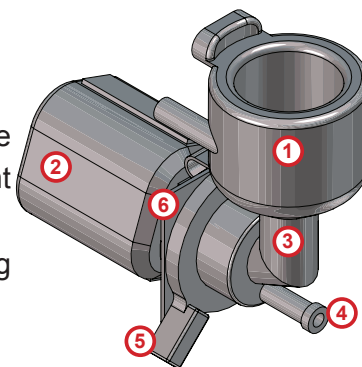

Fig.11.15
11.2.2.5 Mixer (see fig. 11.15)